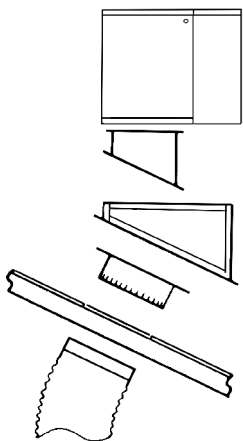
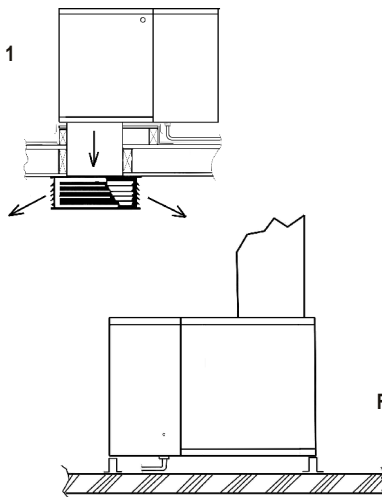

FIGURE 1
FIGURE 3
Your cooler may be a down (TD), horizontal (TH) or up (TUP) discharge model. Down discharge coolers are designed for installation on either flat or pitched roofs (see Fig. 1). Horizontal discharge coolers are designed for installation on the side of a building or, using a 90-degree transition duct, on a flat or pitched roof (see Fig. 2). Up discharge coolers are designed for ground level installation, mounted on a slab (see Fig 3). Evaporative air-cooling systems (down, side or up discharge) can be connected to a duct distribution system with outlet registers for each area to be cooled.